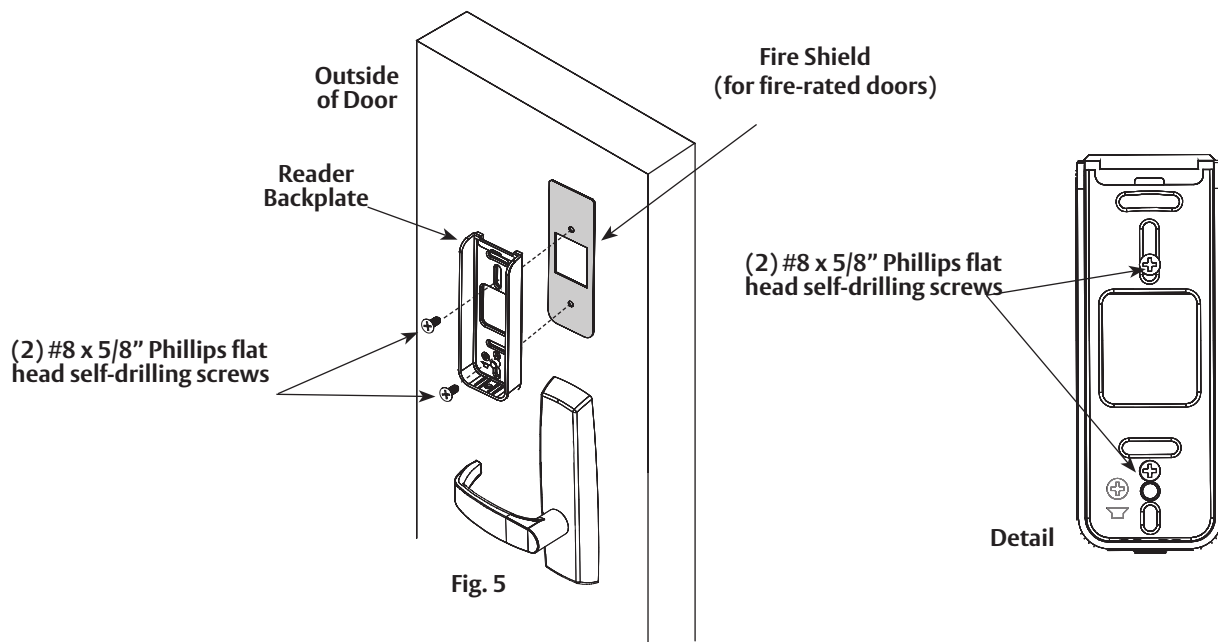

Fig. 5
1. For fire-rated doors only, install reader backplate and fire shield to door using two (2) #8-18 x 5/8" Phillips flat head self-drilling screws (Fig. 5).
2. For exterior doors, install reader backplate using two (2) #8-18 x 5/8" Phillips flat head self-drilling screws (Fig. 5).
3. *For non-fire rated interior doors, no fire shield is required; simply install backplate using two (2) #8-18 x 5/8" Phillips flat head self-drilling screws.